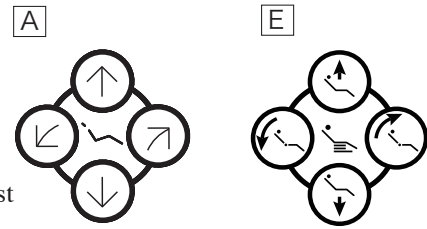

Fig.3-7 Chair Manual Control Switches
⑤ Chair Manual Control Switches (Fig.3-7) **A** **E**